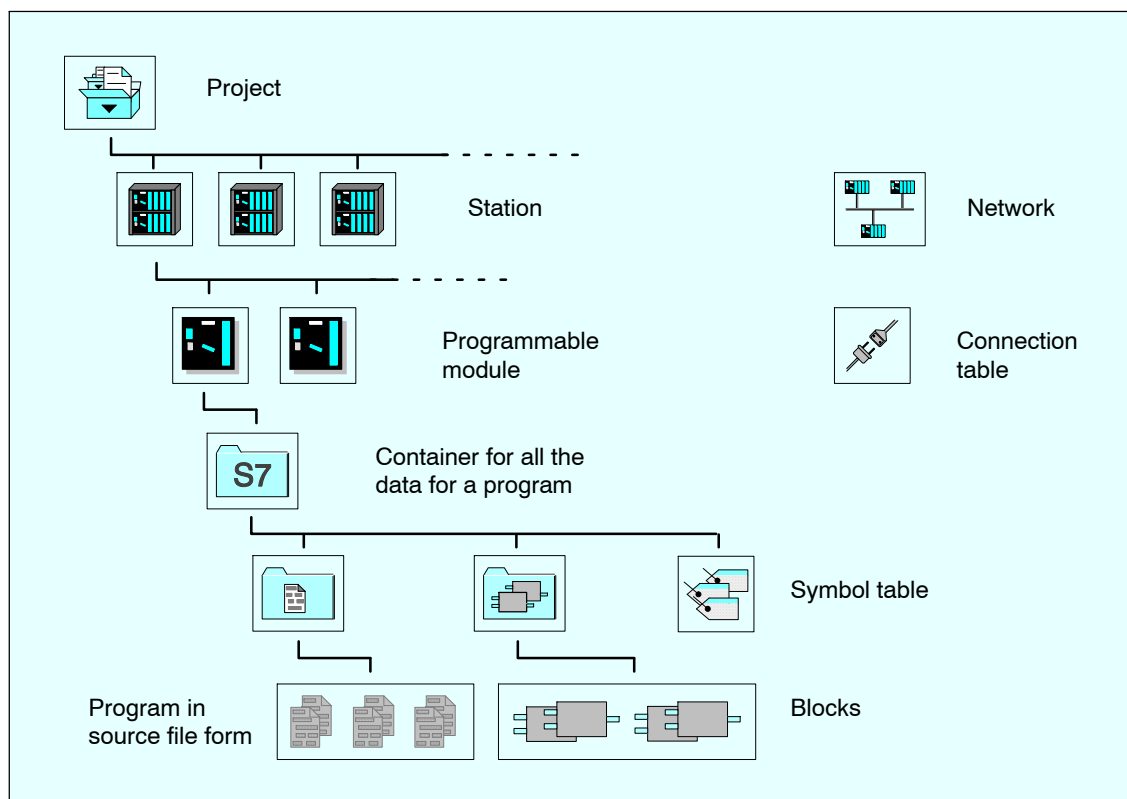

Figure 3-2 Basic Objects in a STEP 7 Project with their Hierarchical Structure
**Components of a Project** A project in STEP 7 essentially consists of the objects depicted in Figure 3-2. These objects are listed and explained below.